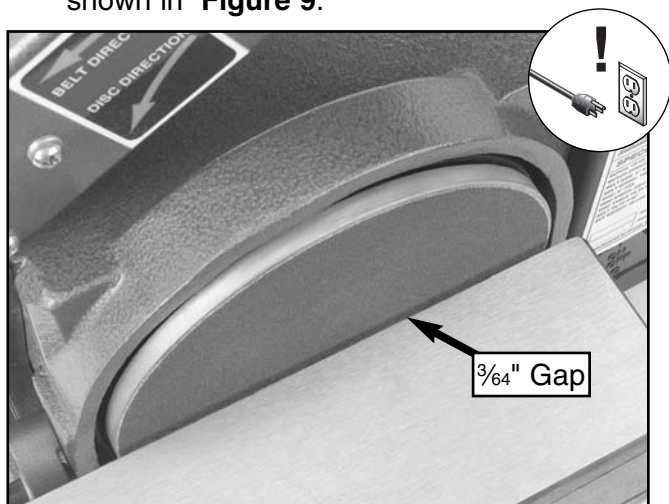

Figure 9. The gap between the table and the disc
3. Adjust the table so that there is $\frac{3}{64}$ " or 1 mm between the table and the sanding disc as shown in **Figure 9**.